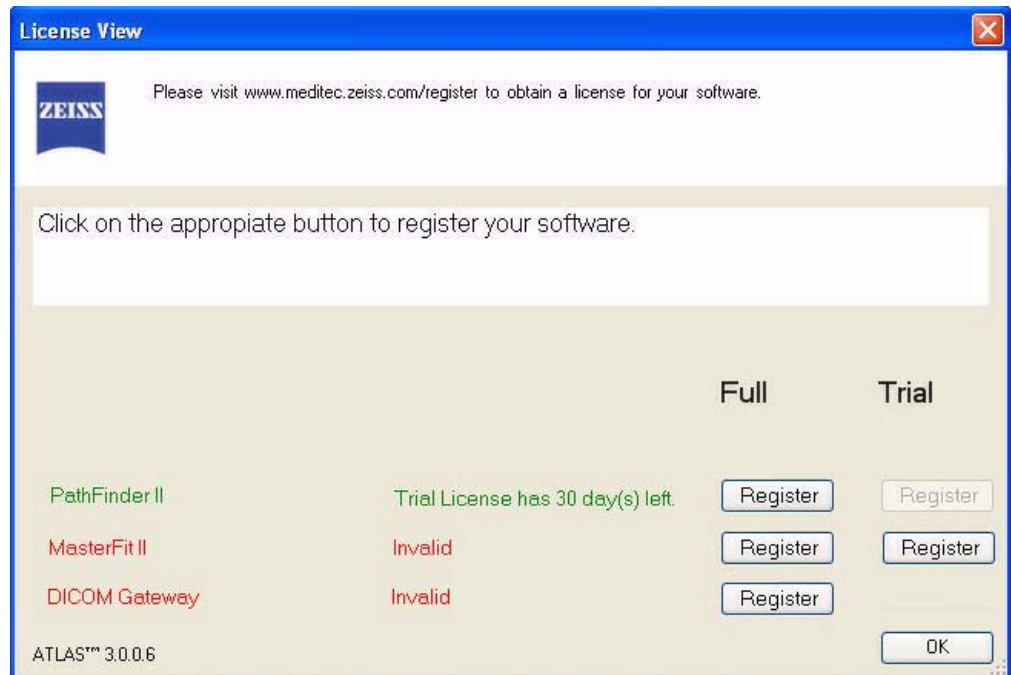
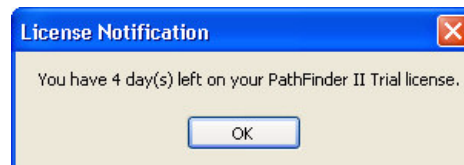

Figure 11 License View Window – PathFinder II 30-Day Trial License Registered
Figure 12 License Notification Dialog
3. The LICENSE VIEW window will be displayed with Trial license registered (Figure 11).
5. You have 30 days from the date of registering to continue using the software. The number of days left in your Trial license is shown on the LICENSE VIEW window (Figure 11). When the number of days left is seven or less, you will be notified at application startup with a dialog such as shown in Figure 12 below: